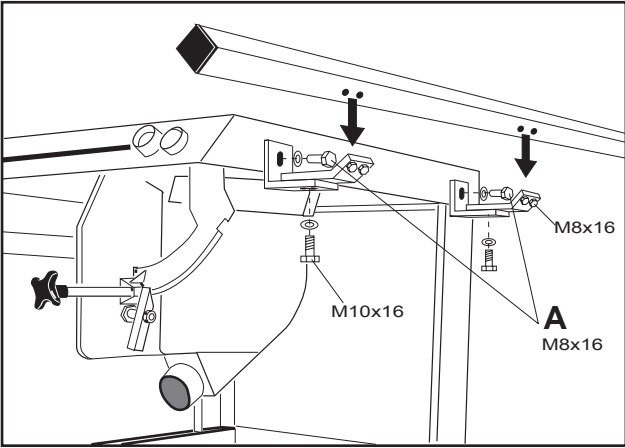

Fig. 1
- Check the riving knife regularly to ensure that it is positioned correctly (Fig. 1).
- Fasten the brackets to the saw guide rail. Screw in all screws loosely. (Fig. 1)
- Using screws **A** (Fig. 1), adjust the height of the roller unit so that it lies in plane with the turntable on the saw.